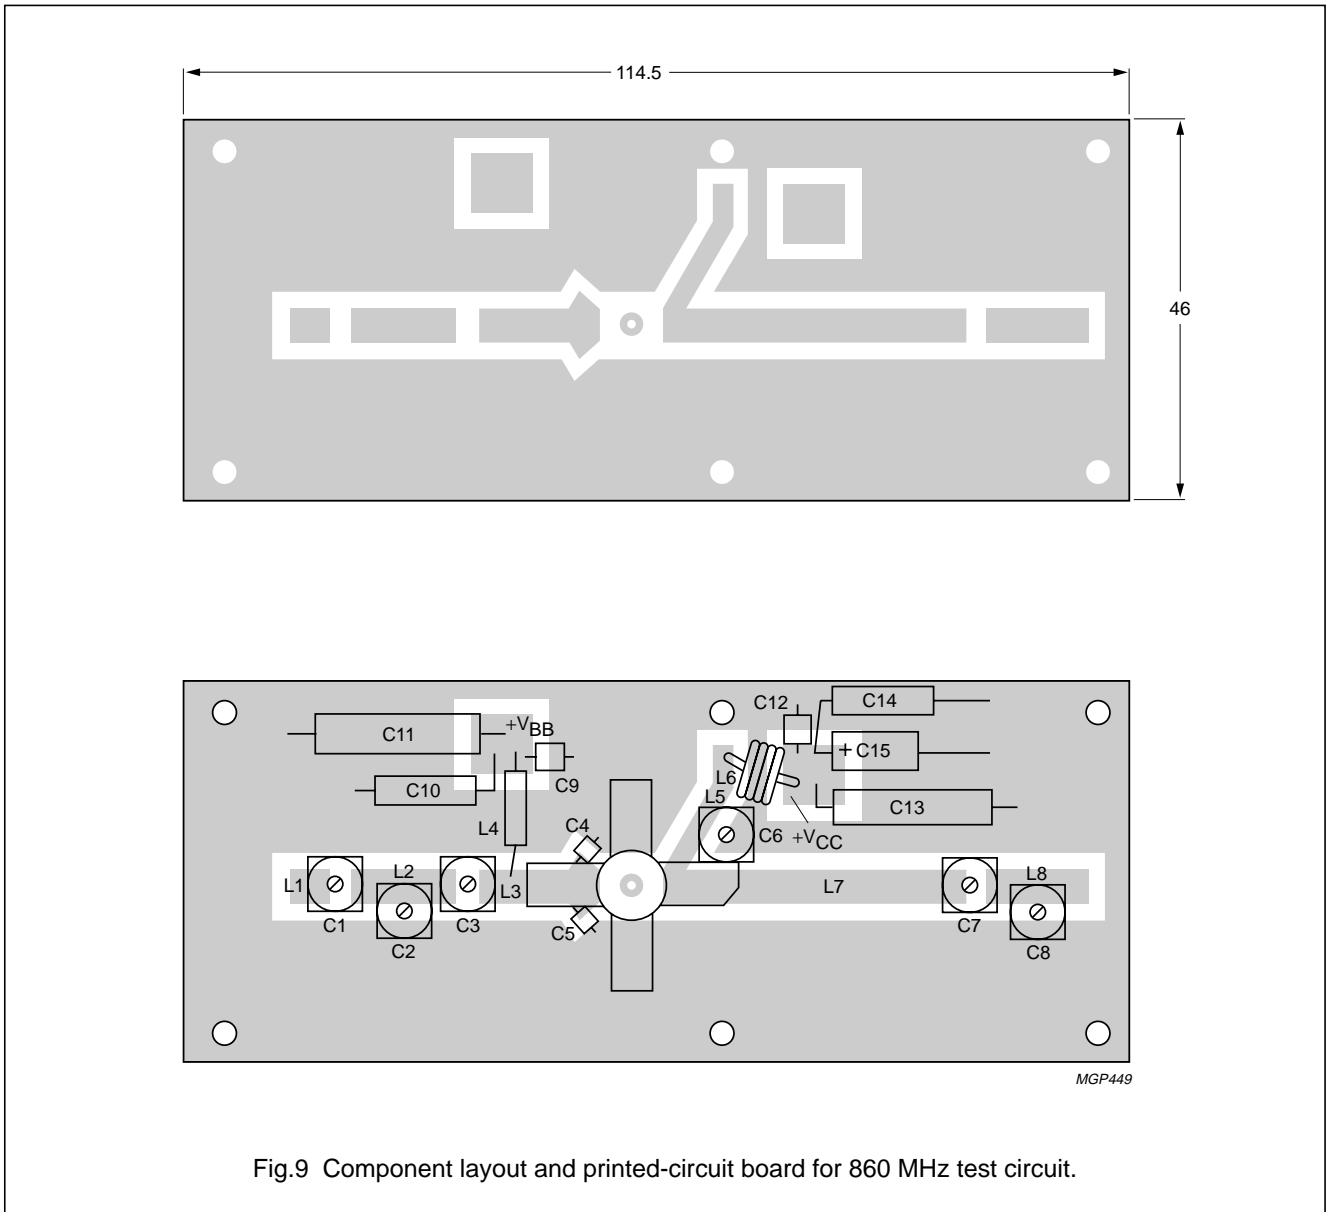

Fig.9 Component layout and printed-circuit board for 860 MHz test circuit.
- L5 = stripline (see Fig.9 printed-circuit board layout)